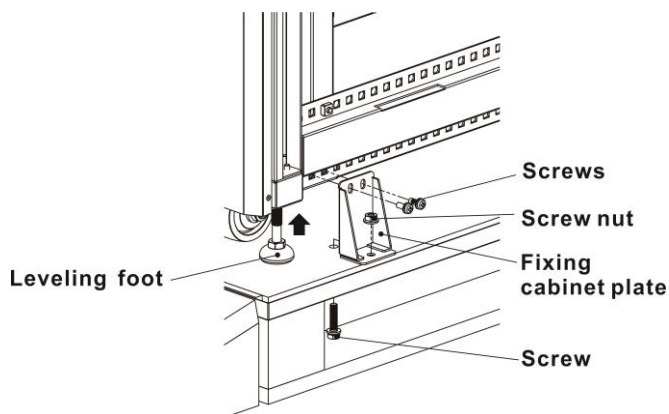

Figure 2-4
4. Remove 4 fixing cabinet plates and loosen leveling feet by rotating them counterclockwise. Then, move the cabinet from the pallet. Refer to Figure 2-4.